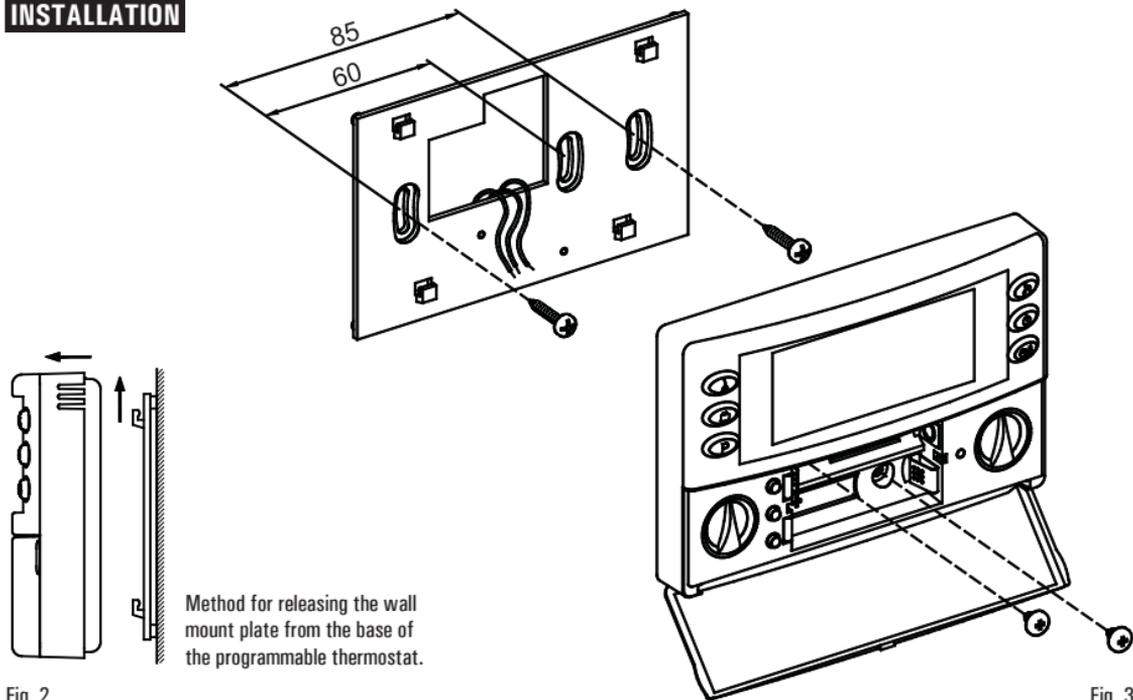

Fig. 2
2. Release the wall mount plate fitted under the base of the programmable thermostat as shown in Fig. 2.